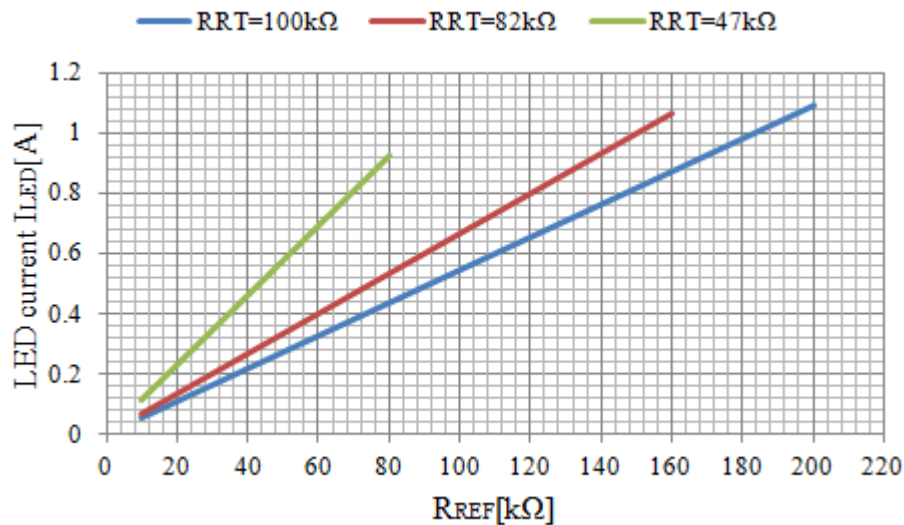

fig.10  $V_{IN}=110VDC$ ,  $R_{REF}$  vs.  $I_{LED}$  @  $R_{CS}=2.2\Omega$ ,  $V_{REF} \leq 2.5V$
When this is graphed, a fig 10 is shown.
And, in the above relations, when  $R_{REF}$  adjusting, it becomes high dissipation that  $R_{RT}$  is big, and switching frequency is slow. Though the calculation example of the fig 10 is fixed with  $R_{CS}=2.2\Omega$ , when this is made  $1\Omega$ , the LED current is 2.2 times. Be sure to take a heat-generation of the external powerMOSFET into consideration, adjust  $I_{LED}$  by  $R_{RT}$  and  $R_{REF}$  with the actual working confirmation.
A fig 12 (A) is a variable method which variable-resistor is used as  $R_{REF}$ . A fig 12 (B) is maximum dimming by  $R_{REF0}$ , and turns on Q1 and Q2 one after another, and composition resistance value is lowered by parallel connection of  $R_{REF1}$  and  $R_{REF2}$  , and it is the variable method which sets  $I_{LED}$  at three steps. Like the fig 10, LED current  $I_{LED}$  can be decreased by making  $R_{REF}$  small.